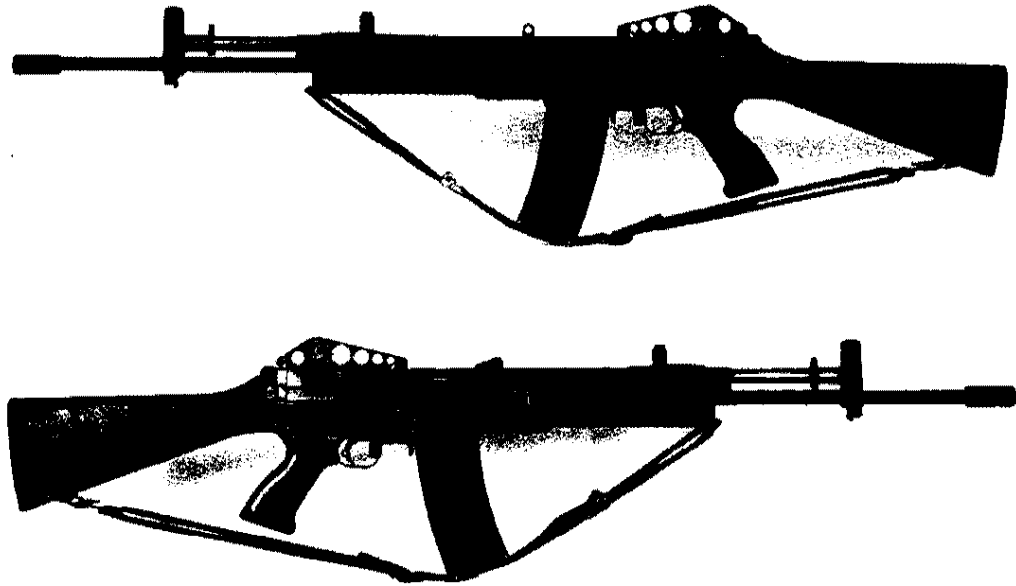

FIGURE 1. STONER RIFLE - LEFT AND RIGHT VIEW
a. The Stoner Rifle is a shoulder weapon. Detailed data are listed in paragraph 5. It can be fired either automatically or semiautomatically by moving the selector lever to "SEMI" for semiautomatic or "AUTO" for automatic fire. Figure 1 shows the left and right side of the rifle.